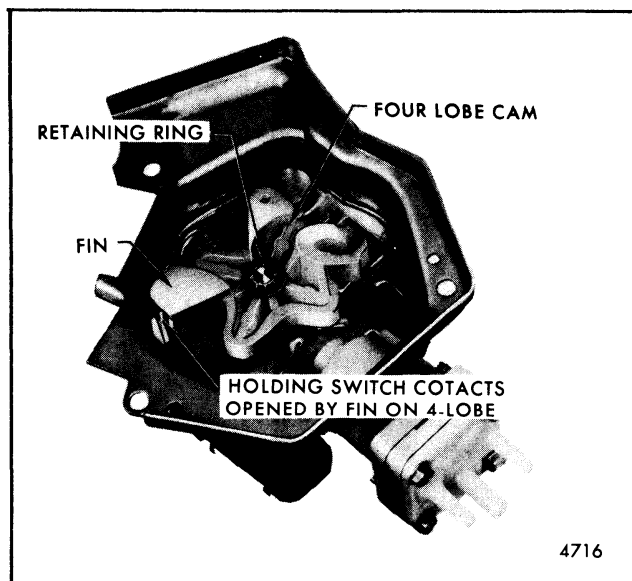

Fig. 2-54-Demand Washer 4-Lobe Cam
- a. The washer pump 4-lobe cam has a fin which opens holding switch contacts "A" when the cam is rotated (Fig. 2-54).